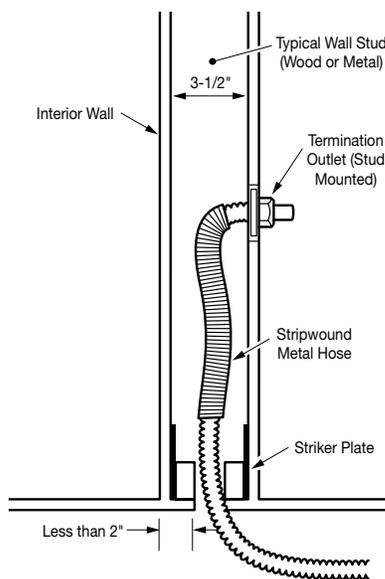

Figure 4-7
c. Hardened steel striker plates provide the required protection through building structures as described above. Type RW Floppy steel conduit shall be installed as additional protection at termination points. (Figure 4-7)